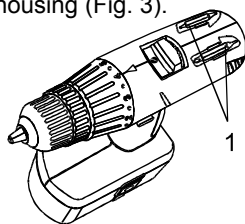

Fig. 3
Convenient on-board screwdriver bit storage (1) is provided at the rear of the drill housing (Fig. 3).